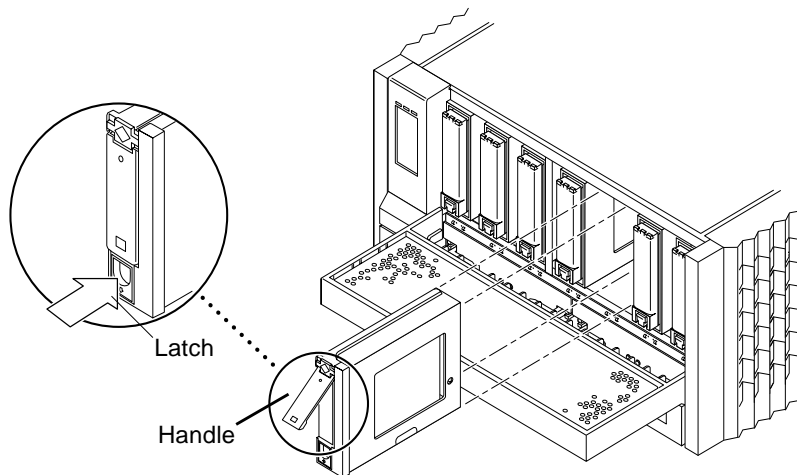

FIGURE 8-2 Removing a Disk Drive
5. Remove the disk drive (FIGURE 8-2).